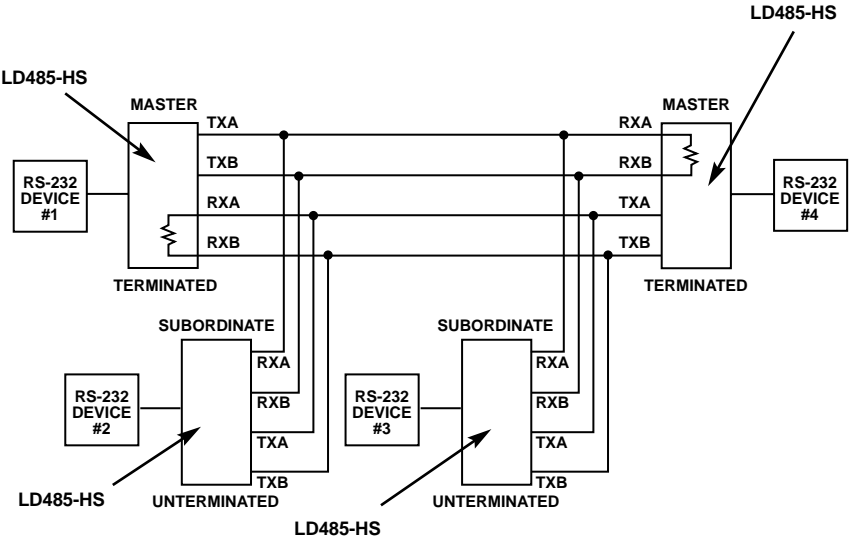

Figure 7. Multipoint, 4-Wire (Half- or Full-Duplex).
**Figure 7** shows a typical multipoint, 4-wire, full- or half-duplex connection. **Figure 8** shows a typical multipoint, 2-wire, half-duplex connection. In the multipoint applications depicted in **Figures 7** and **8**, the devices at the extreme opposite ends of the installation are terminated by setting switch S2 to the TERM position. These devices are the two devices that have the greatest cable length between them, not necessarily the devices that are physically located the farthest apart. (See **Figures 7** and **8**.) A resistor shown in the circuit indicates that the termination resistor has been selected via switch S2. Note that although **Figures 7** and **8** show only four LD485A-HS devices networked together, up to 64 units can be connected in the manner shown in **Figure 7**, and up to 32 units as shown in **Figure 8**.
5. Connect the LD485A-HSs together via a 4-wire twisted-pair cable (see **Figure 7**).